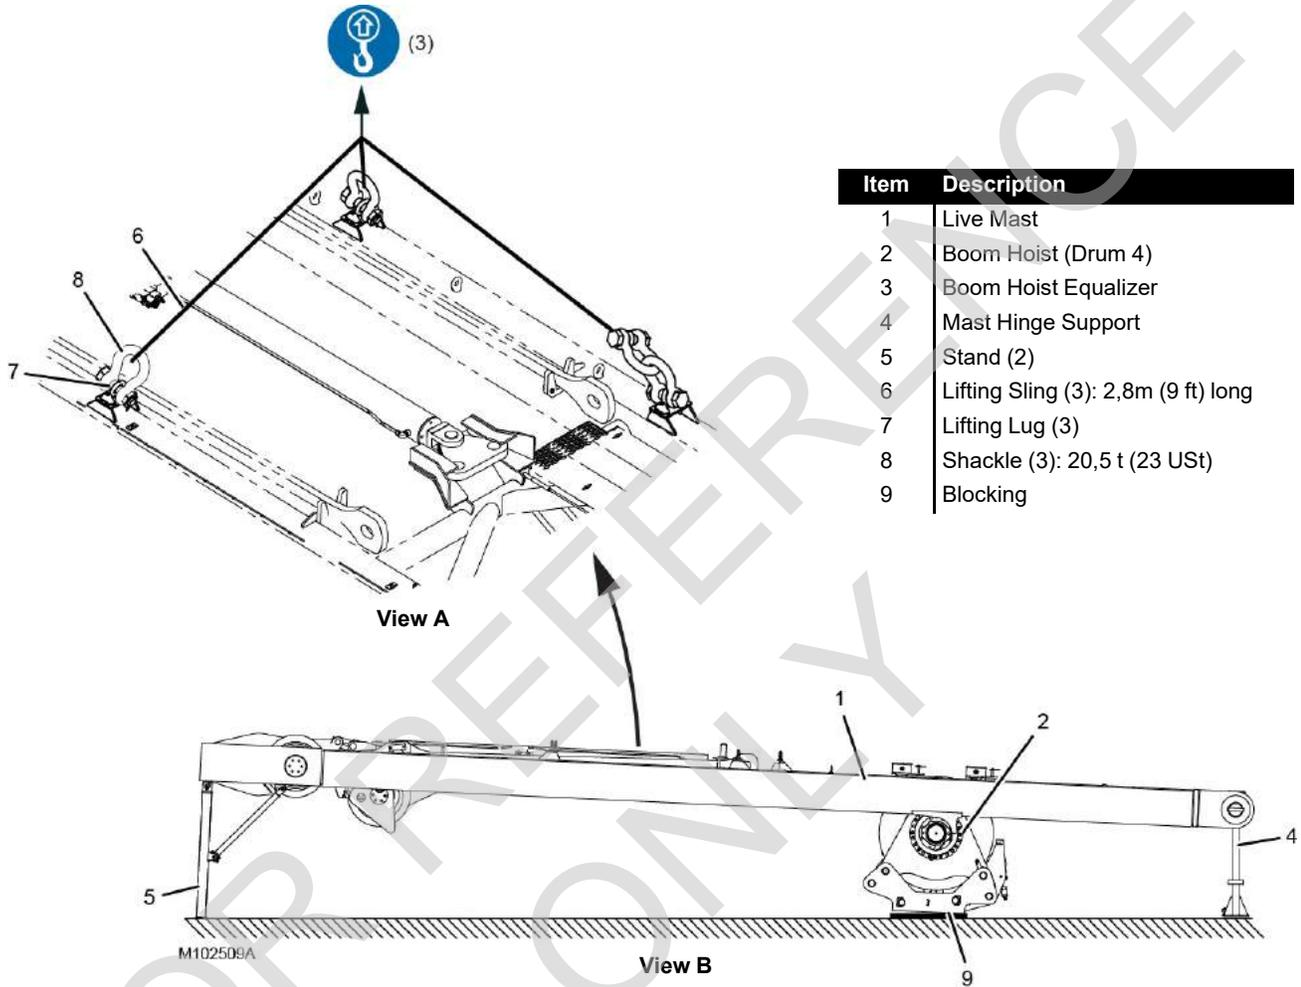

Figure 4-91
- Lift only with the specified rigging at the locations shown in Figure 4-91.